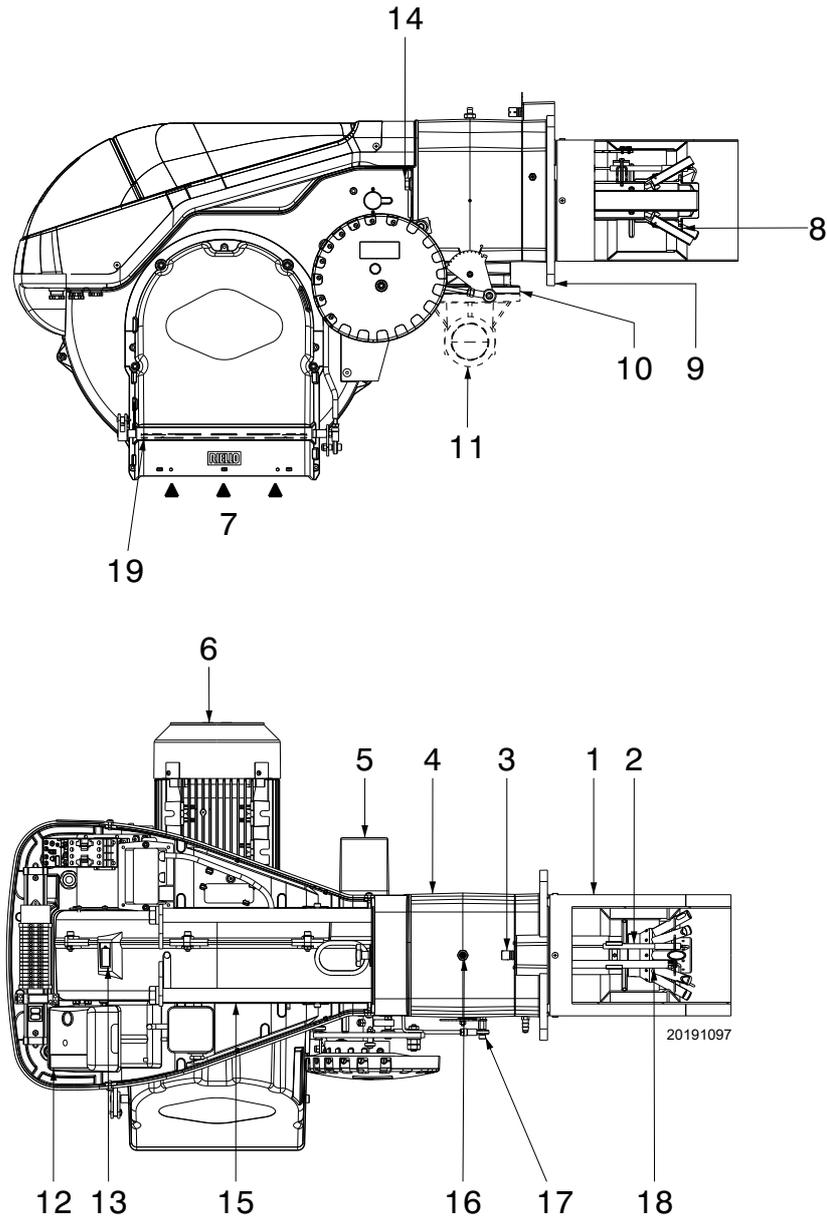

Fig. 5
- (1) Reference conditions: Ambient temperature 20°C - Gas temperature 15°C - Barometric pressure 1013 mbar - Altitude 0 m a.s.l.
(2) Pressure at socket 16)(Fig. 5) with zero pressure in combustion chamber and at maximum burner output.
(3) Sound pressure measured in manufacturer's combustion laboratory, with burner operating on test boiler and at maximum rated output. The sound power is measured with the "Free Field" method, as per EN 15036, and according to an accurate "Accuracy: Category 3" measurement, as described in EN ISO 3746.
if the control box button 12)(red led)(Fig. 5) lights up, it indicates that the burner is in lockout.